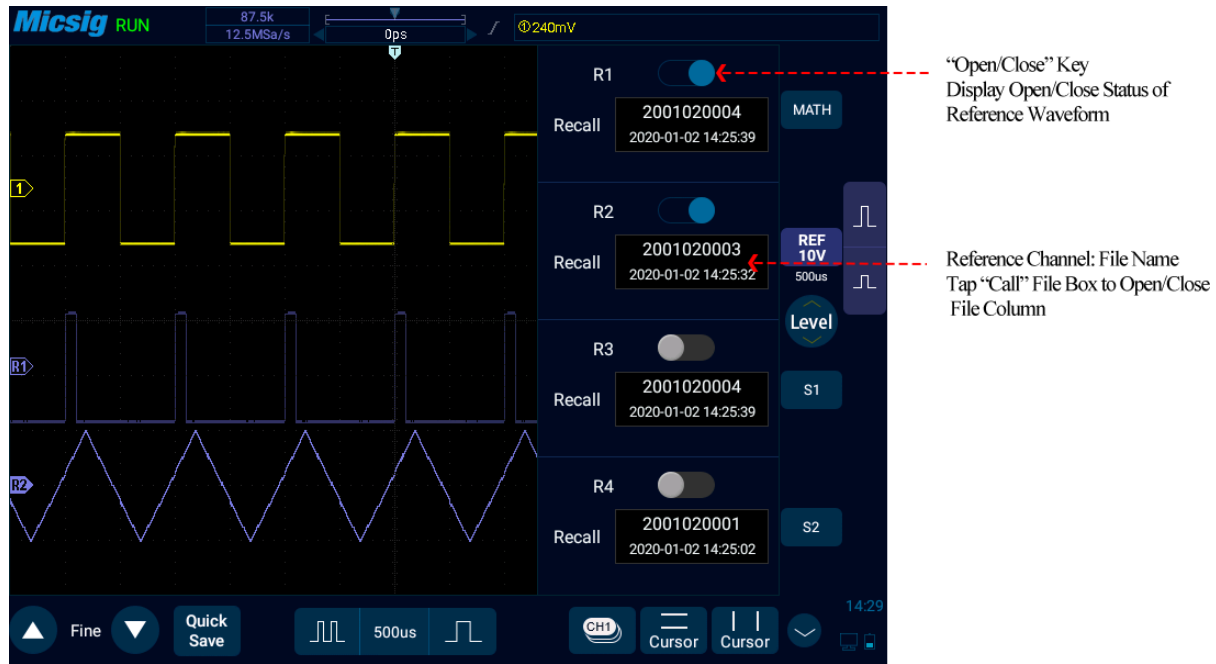

Figure 9-6 Reference Channel Menu
Tap  in the bottom right corner of the screen to enter the second channel selection area. Tap  button to open the reference menu, see Figure 9-6.
- 3) Click the name of the reference waveform file to be called. The file is loaded into R1 channel. Then, R1 channel is turned on as the current channel waveform, and the reference waveform channel icon  is highlighted. The displayed state changes from “Close” to “Open”. As in Figure 9-6, the brighter reference waveform is shown as the current reference channel.